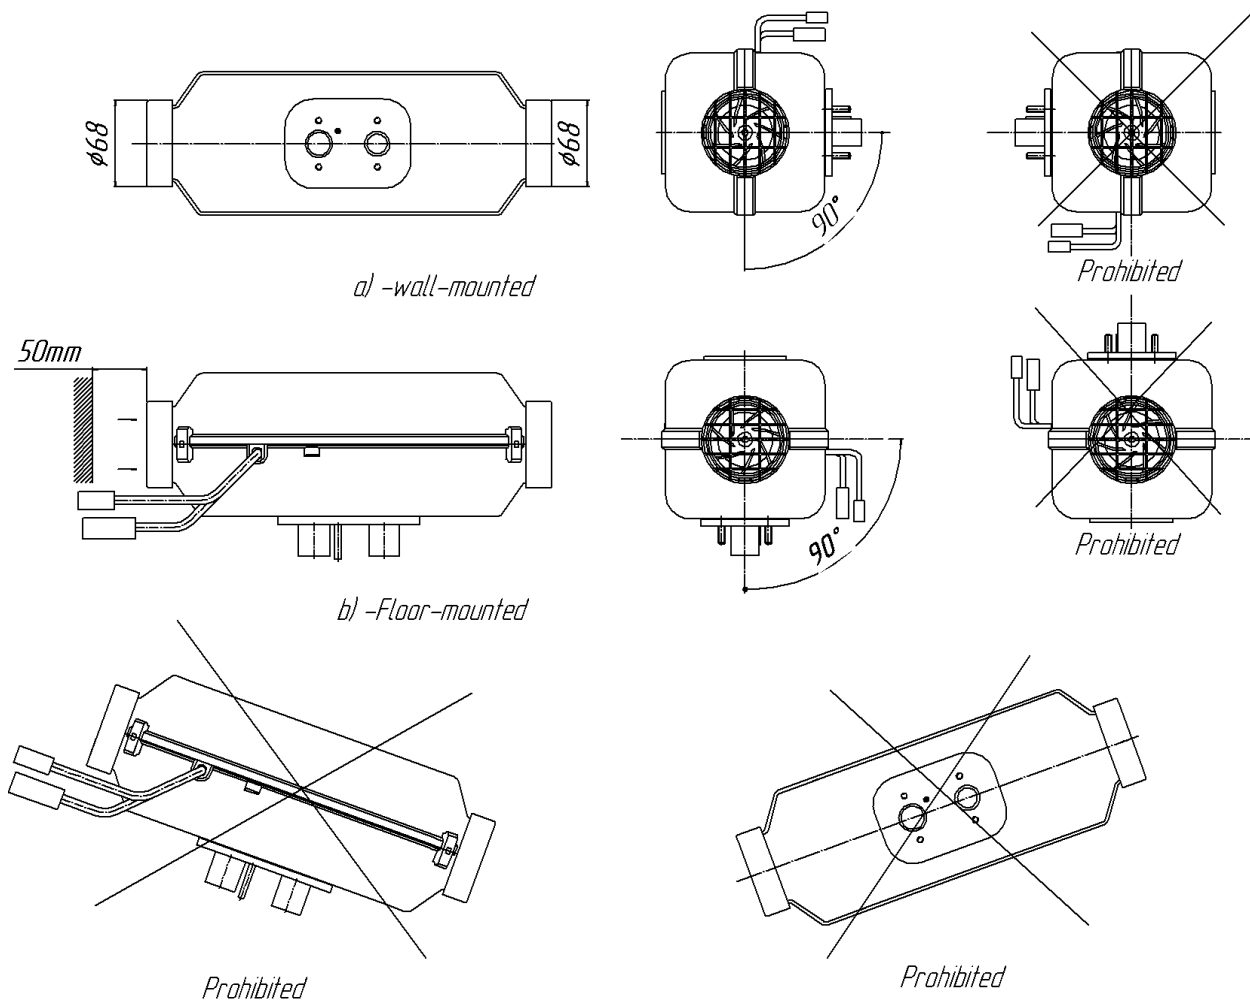
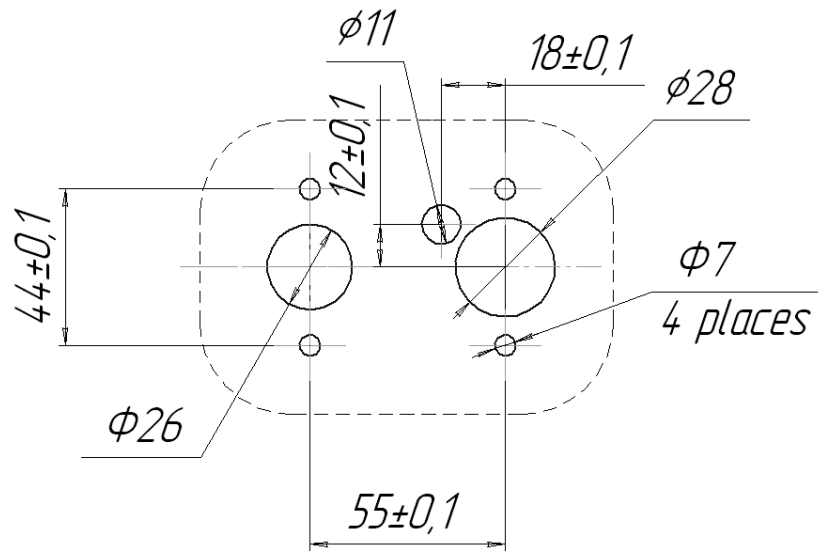

Figure 8.1 – Variants of installation of a heater.
Figure 8.2– Mounting Holes Used for Heater Installation
Installed the heater indoors while bearing in mind the permissible operating positions shown in Figure 8.1. The figure 8.1 shows the two maximum assembly positions of the heater. Positioned the heater's inlet vent in such a way to prevent absorption of vehicle/heater exhaust gas in normal operating conditions. The gap between the walls/partitions and the edge of the inlet vent shall be at least 50 mm (see Figure 8.1). The distance between the walls/partitions and the edge of the outlet vent shall be at least 150mm. When assembling or operating the heater, ensure that no foreign objects enter the inlet/outlet vents. Prior to assembly, ensure availability of spare heating plug and bear in mind dismantlement requirements, as this will permit easier maintenance in future. At installation of the heater check that its case had no contact both with a floor and with other parts of a cabin or a manned compartment. See Figure 8.2 for how to position mounting holes to install the heater into the motor vehicle casing.
**ATTENTION ! To ensure reliable performance, follow the above recommendations carefully. Install the heater horizontally as shown in Figure 8.1.**